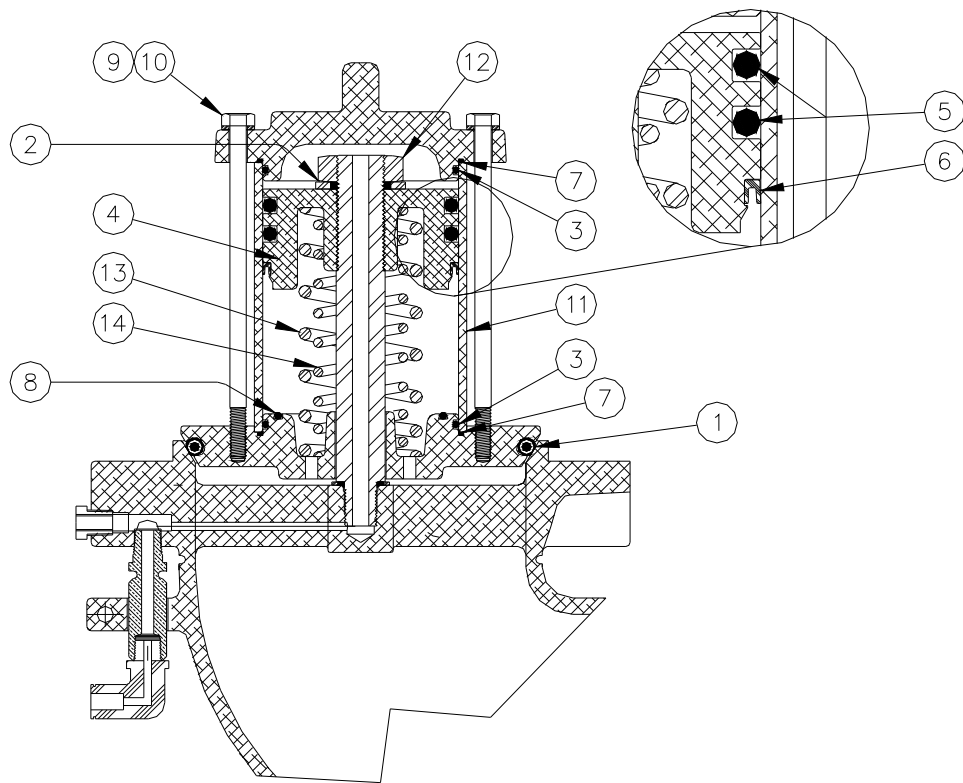

Figure 1 Air Operated Internal Valve Section View
1. Review Figure 1 before disassembling the valve
3. Remove air cylinder screws (9) and lock washers (10) from top of cap, remove cap from assembly (No spring tension in this area)
4. Slide cylinder body (11) off the end of the piston. Replace o-rings (3) and (7) in the cap (No spring tension in this area)
5. Remove hex nut (12) from shaft (No spring tension in this area)
7. Remove disc from shaft and inspect seat of valve for scratches or gouges and replace Tef-O-Sil o-ring (1), and o-rings (3, 7). If valve seat is damaged valve will need to be replaced.
8. Inspect air cylinder body (11) for scratches, replace if necessary
11. Refit new seal washer (2) (supplied in kit), install hex nut (12)